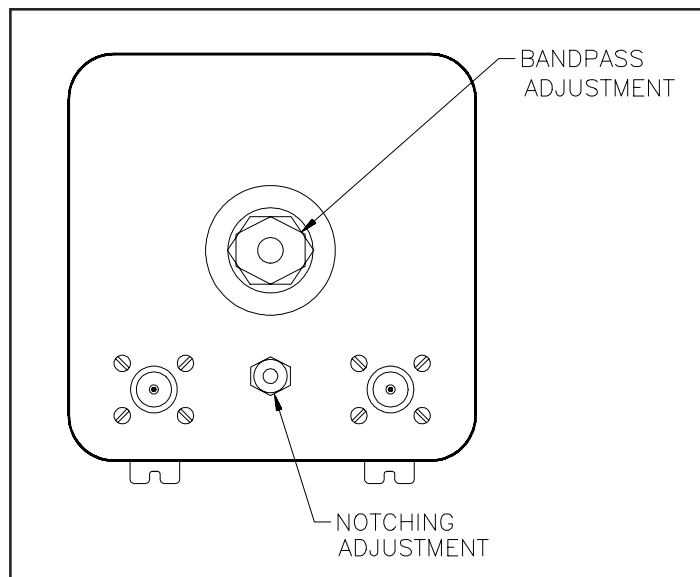

Figure 1 - Adjustment Screws
Note: Tune the bandpass adjustment to pass a higher frequency and the notching adjustment to reject a lower frequency (see Figure 1)
2. On each cavity, loosen the hex nut that locks the threaded tuning rod (see Figure 1).
- b. Turn the notching adjustment counterclockwise nine (9) turns.
Note: Tune the bandpass adjustment to pass a lower frequency and the notching adjustment to reject a higher frequency (see Figure 1)